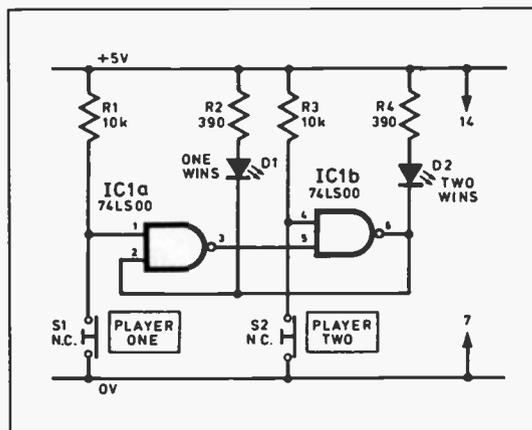

Fig. 7.1 "Snap" indicator game.
A fun application using logic gates is shown in Fig. 7.1. This "Snap" Indicator is a two-player game which clearly indicates who pressed their button first. No arguments! A pair of NAND gates are needed, which can be found in the 74LS00 chip we introduced last month. The truth table for the NAND is given below. Also see last month's issue.
The truth table tells us that the gate output (Q) is only logic 0 when both inputs (A and B) are logic 1. The circuit of Fig. 7.1 uses two of the *Mini Lab* normally-closed push switches, one for each player. The circuit is